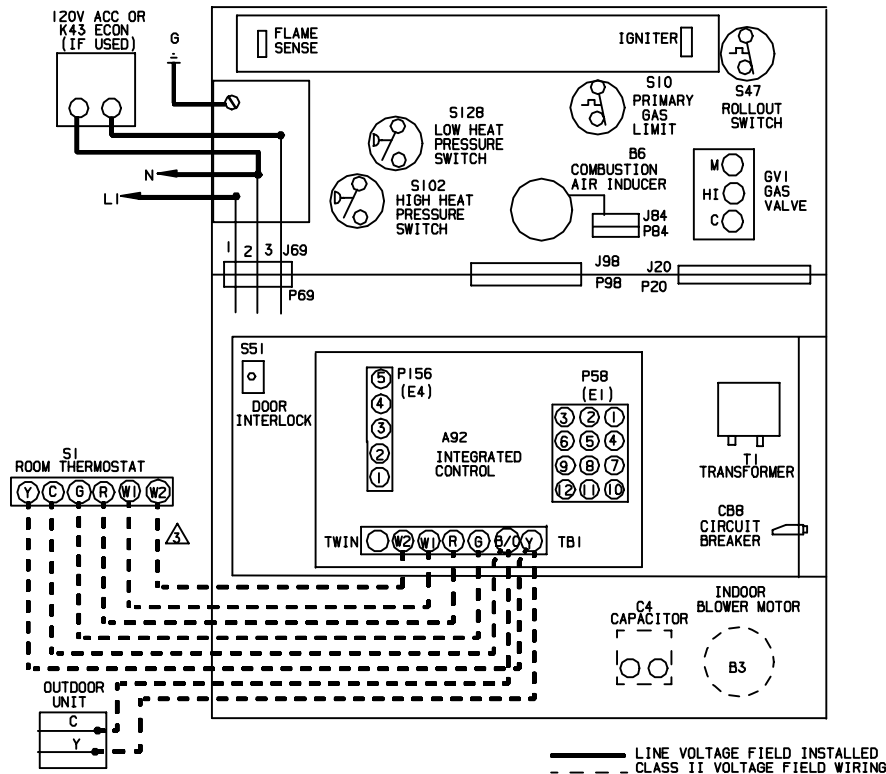
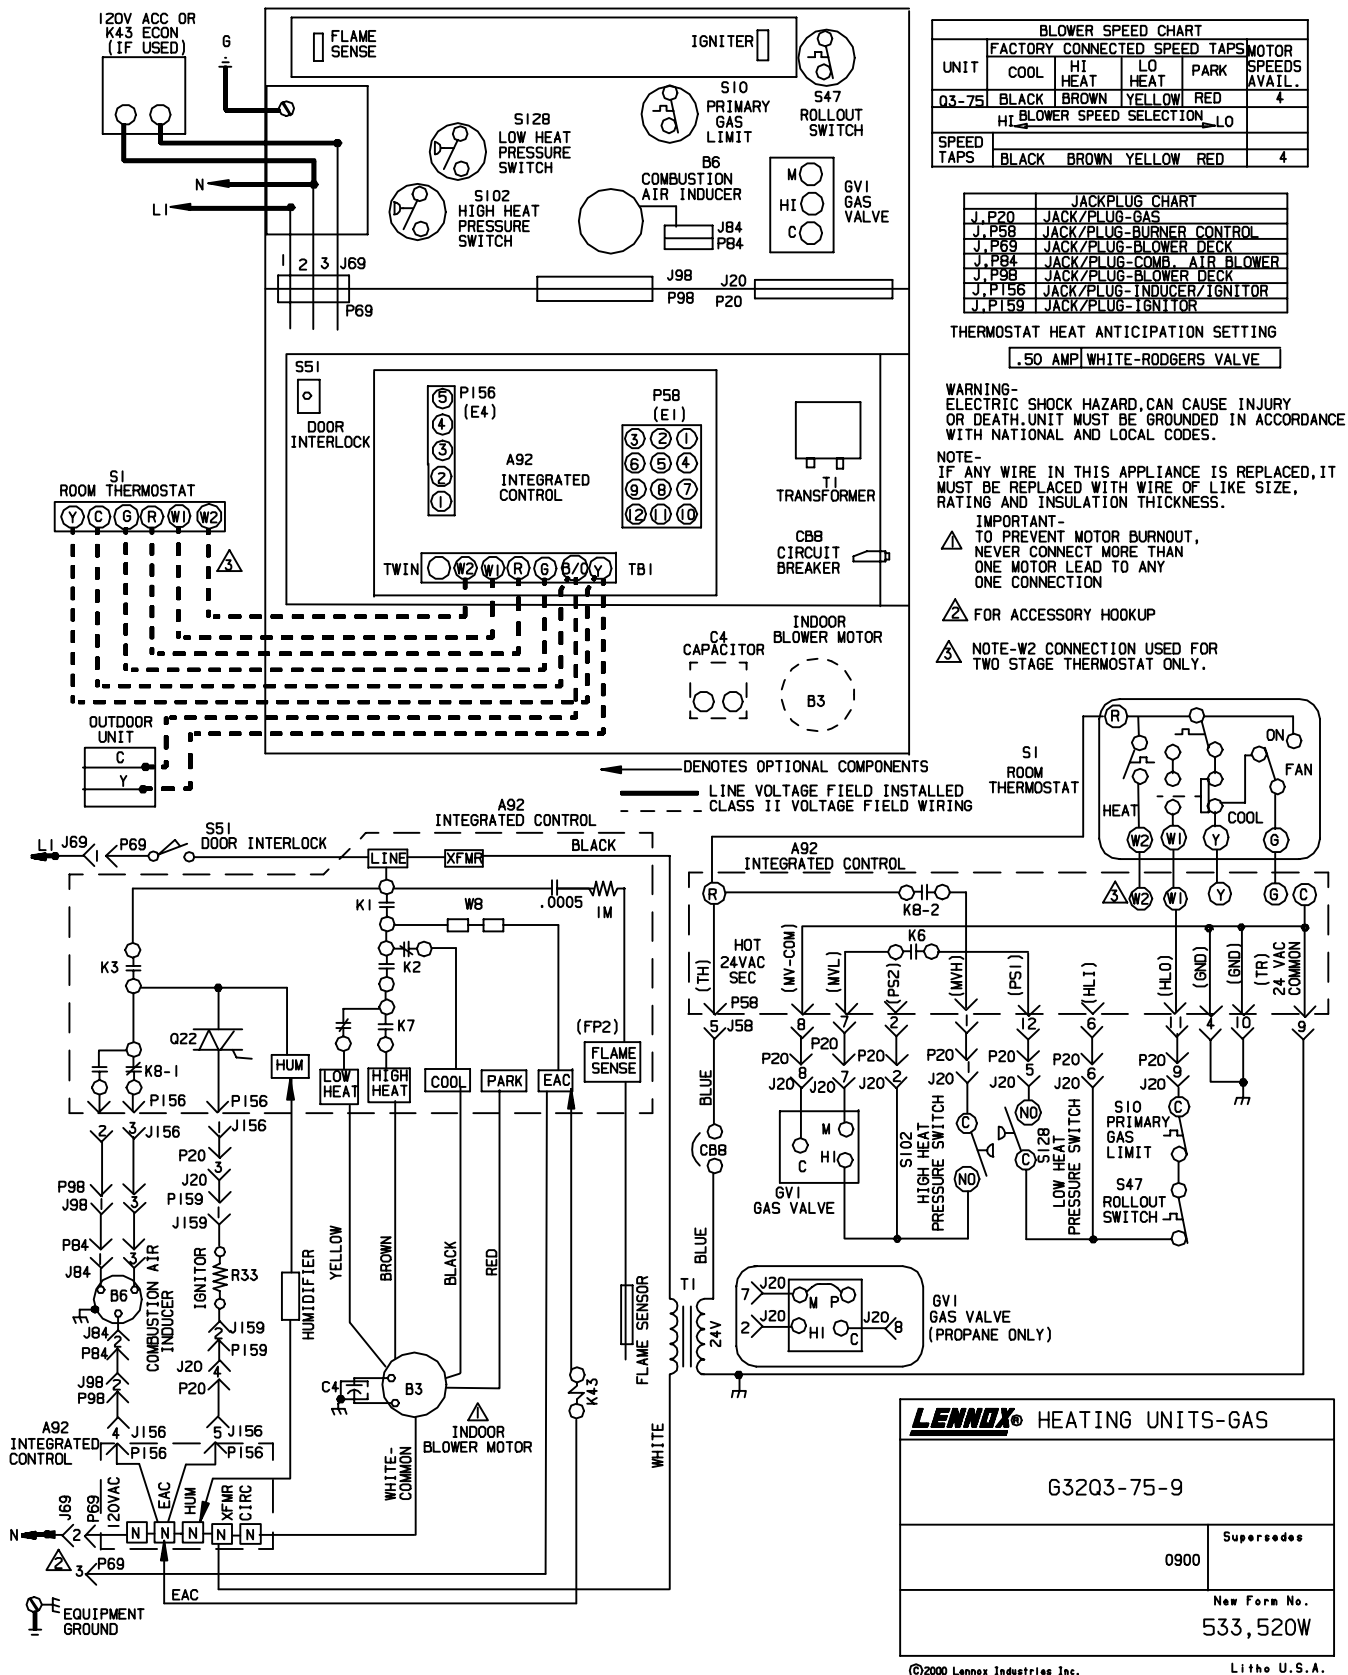

FIGURE 29
FIGURE 30
Figure 27 shows thermostat designations for identification purposes. Refer to figure 28 for a detail of the integrated control, figure 30 for schematic wiring diagram and troubleshoot- ing, and figure 29 for point-to-point field wiring.
- 11 - Complete wiring connections to equipment using wiring diagrams provided with unit and in figures 29 and 30. Use 18-gauge wire or larger for thermostat connections.